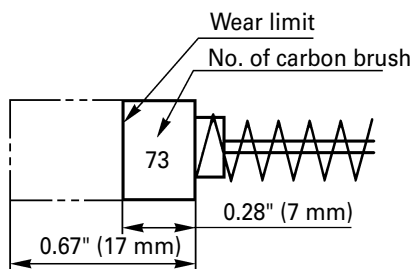

Fig. 6
3. Inspecting the carbon brushes: (Fig. 6)
Use HITACHI carbon brush No. 73 indicated in Fig. 6